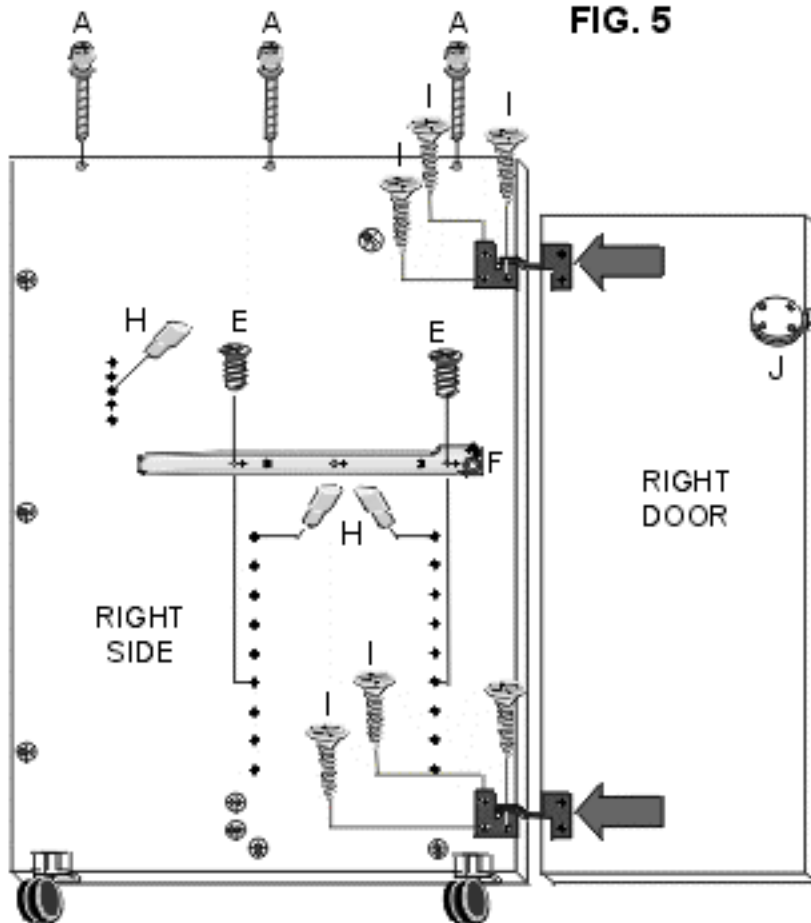

FIG. 5
Insert (1) SHELF PIN (H) into middle hole in series of (5) holes near back-upper portion of panel. FIG. 5 Align and attach (1) 16" RAIL (F) at desired position using (2) 5mm EUROSCREWS (E). Insert (2) SHELF PINS (H) for desired location of CPU SHELF.